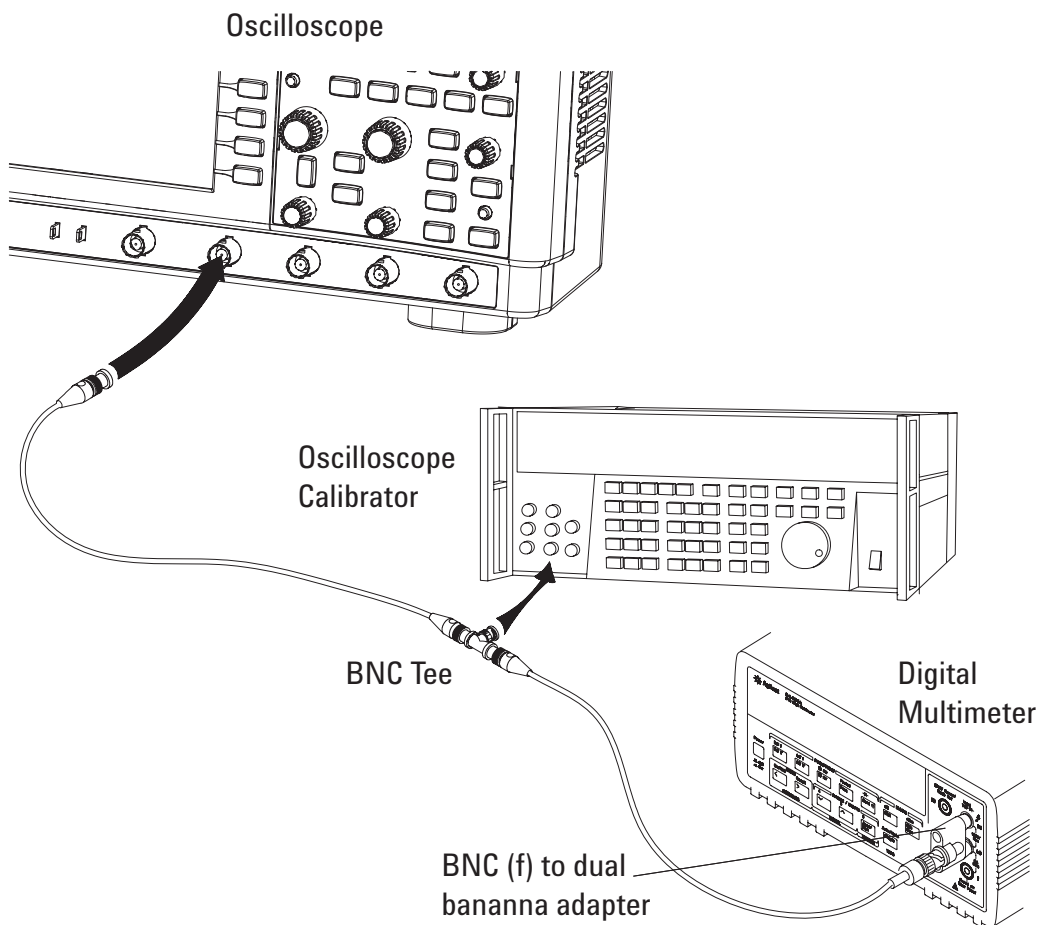

Figure 1 Setting up Equipment for DC Vertical Gain Accuracy Test
- 6 Use the BNC tee and cables to connect the oscilloscope calibrator/power supply to both the oscilloscope and the multimeter (see **Figure 1**).